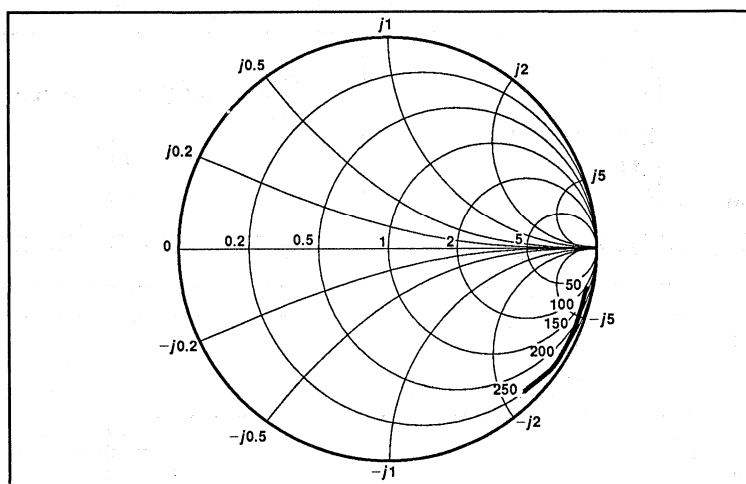

Fig. 5 Typical input impedance. Test conditions: Supply Voltage = 5V, Ambient Temperature = 25°C. Frequencies in MHz, impedances normalised to 50Ω.
- The input impedance of the SP8695 varies as a function of frequency. See Fig. 5.